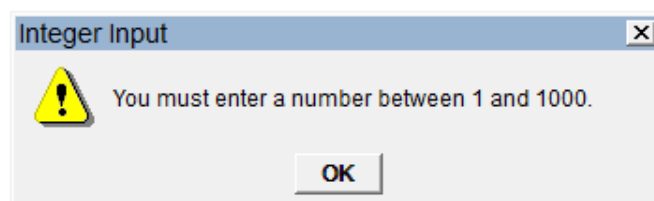

Fig. 17. The error message
- In case of entering a number out of the predefined range (1-1000 in our example), the error message is displayed as in Fig. 17.